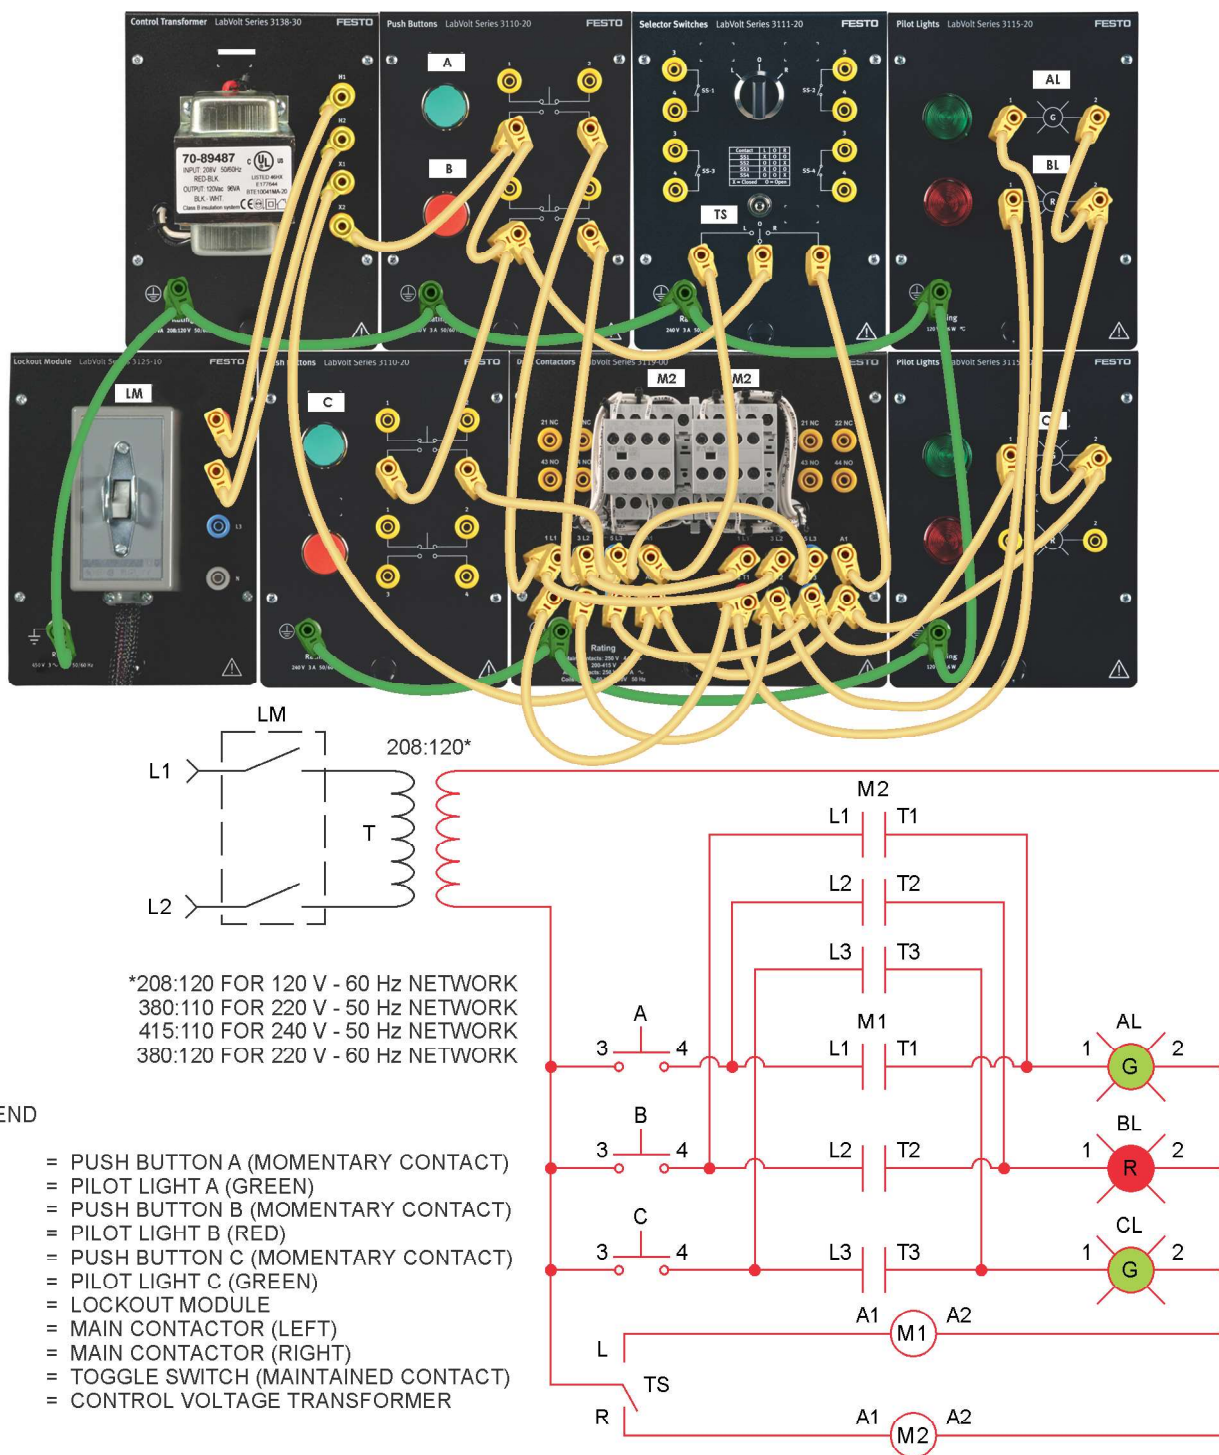

Figure 1-18. Dual contactors reversing circuit.
8. Connect the circuit shown in Figure 1-18.